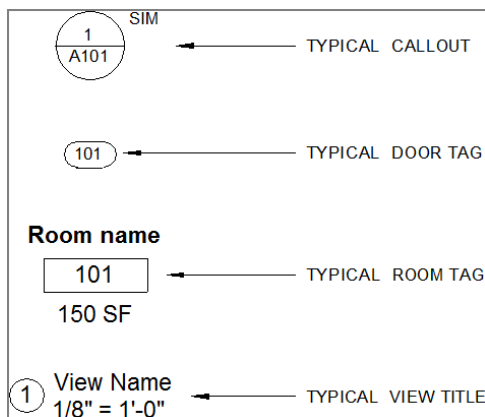

FIGURE 11.49: Adding descriptive text
4. Add the following notes to the rest of the symbols (see Figure 11.49):